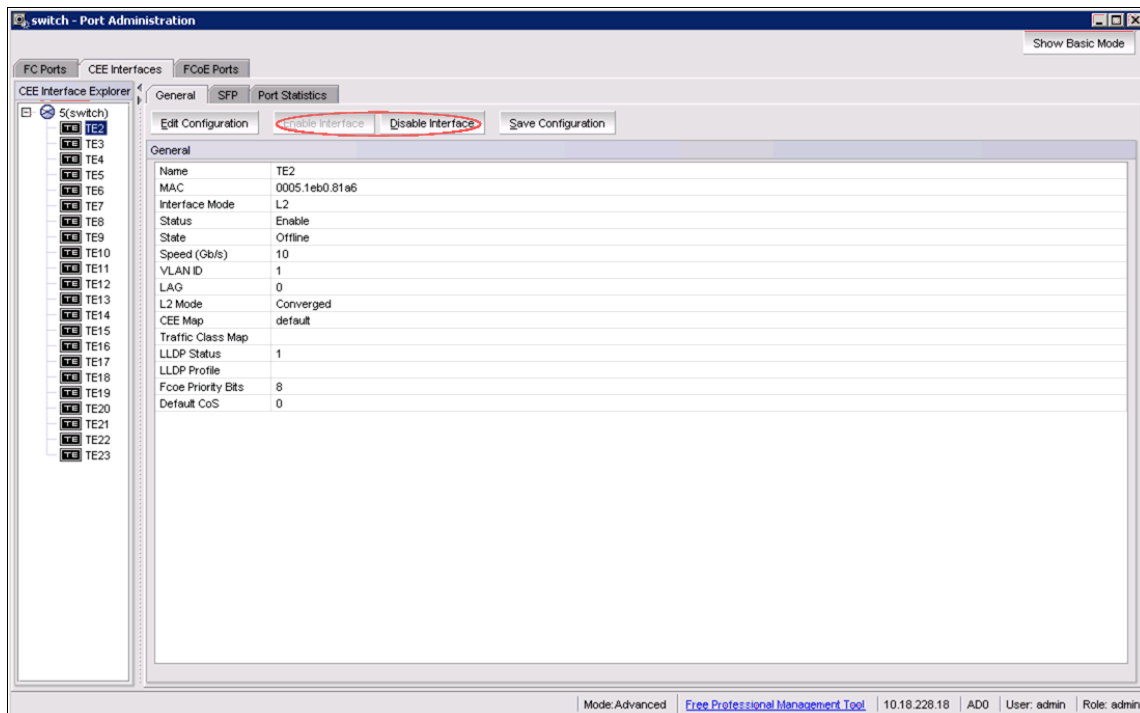

Figure 5-41 CEE Interface Enable/Disable
3. Select the **General** tab to display the Enable Interface and Disable Interface options. The **General** tab is normally pre-selected (Figure 5-41).